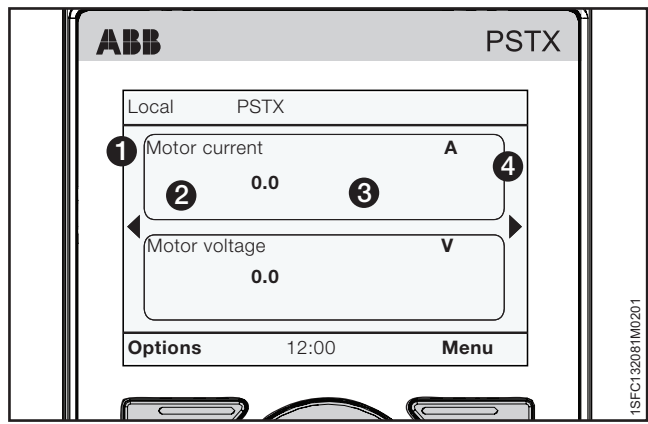

Figure 6.20
Select the display style for the home view. The selected display style is shown by ② in Figure 6.20.
Push "Save" to save the value. Decimal numbers are shown in ③ in Figure 6.20.
Push  "Save" to save the display name. Display name is shown by ① in Figure 6.20.
Push  "Save" to save the value. Value is shown by ③ in Figure 6.20.
Display signal min as - Push  "Edit" to select the scaled minimum value in the Home view. Use the Navigation keys to change the value, Push  "Save" to save the value. See ③ in Figure 6.20.
Display signal max as - Select the scaled maximum value to show in the Home view. Use the Navigation keys to change the value, Push  "Save" to save the value. See ③ in Figure 6.20.
Display unit - Type in the unit to show in the Home view. You can type a unit with up to 10 characters. Use the Navigation keys to change the characters. Push  "Save" to save the Home view unit name. See ④ in Figure 6.20.